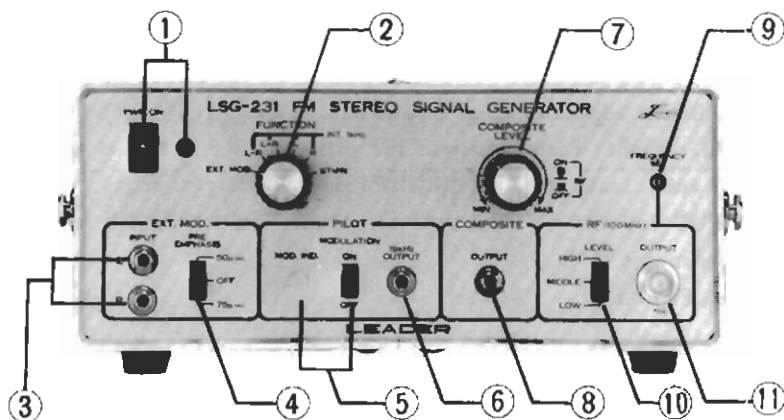
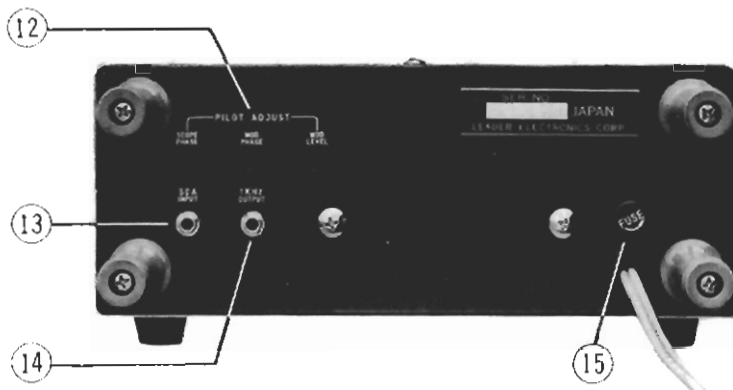

Fig. 1-1 Front panel controls.
Fig. 1-2 Rear panel controls.
Before operation, it is advisable that the user become familiar with the function of the different controls and connectors on the LSG-231. The number in the circles refer to the controls, switches, etc., designated in Fig. 1-1 and Fig. 1-2.
A. Front Panel, Fig. 1-1
- ⑧ COMPOSITE OUTPUT jack: All signals as selected with the FUNCTION switch and the pilot signal are available at this jack. The output is used in checking stereo multiplex circuits.
- ⑨ FREQUENCY SET adjuster: Used in adjusting the RF carrier frequency; nominally set at 100MHz, adjustable range is ± 1 MHz.
- ⑩ RF LEVEL switch: Three positions for setting the RF output at approximately 10mV, 1mV and 0.1mV, at HIGH, MEDIUM and LOW respectively.
- ⑪ RF OUTPUT connector: BNC type for connection to the RF output cable; output impedance is 75Ω .
B. Rear Panel, Fig. 1-2